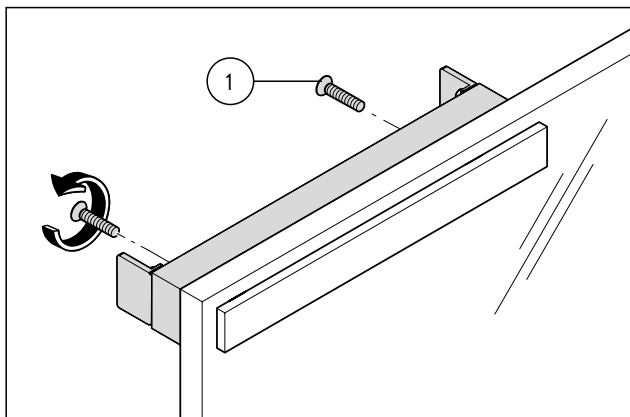

Abb. 13 Fix the screw-on plate and the counter-plate to the glass door
- Fix the screw-on plate and the counter-plate to the glass door with a torque of 15 Nm (Abb. 13).